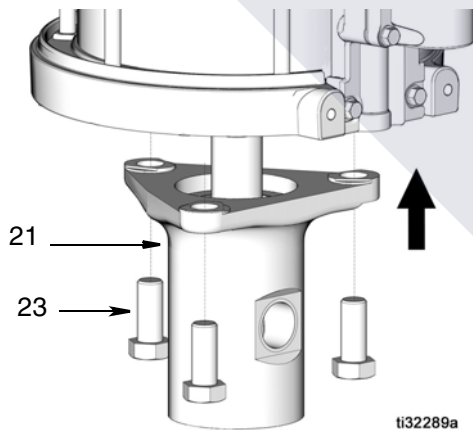

FIG. 13
3. Reattach pump base (21) to air motor (1) using 3 mounting bolts (23). Torque mounting bolts to 60 ft-lb (81.35 N•m) (FIG. 13).